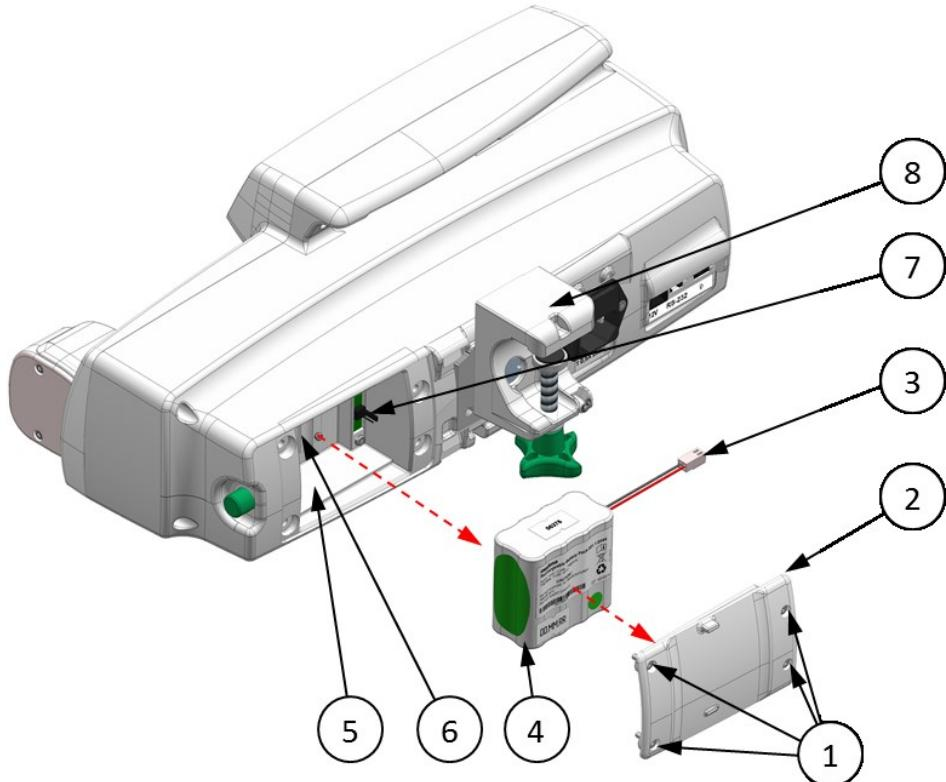

Fig. 35. Battery package removal/installation
1. Turn the **Rotatable pole clamp (8)** by 90° as shown in Fig. 35.
2. Using the **TB-1** screwdriver unscrew four **M3x8 screws (1)** which fixing the **Battery cover (2)**. Pull out the **Battery cover (2)** as shown in Fig. 35.
3. Disconnect the **Battery package connector (3)** from the **Battery package socket (7)**, pull out the **Battery package (4)** from the **Battery chamber (5)** as shown in Fig. 35.
4. Remove the heat transfer compound **TB-8** from the **Battery bed (6)** (see Fig. 35).
1. Apply the heat transfer compound **TB-8** on **Battery bed (6)** inside the **Battery chamber (5)** (see Fig. 35) with amount shown in Fig. 36.
2. Connect the **Battery pack connector (3)** to the **Battery pack socket (7)** and then place the **Battery package (4)** in the **Battery chamber (5)** as shown in Fig. 35. The part of the **Battery package (4)** with no protective foil must adhere to the **Battery bed (6)**.
3. Attach the **Battery cover (2)** and use the **TB-1** screwdriver to screw in four **M3x8 screws (1)** that fix the **Battery Cover** as shown in Fig. 35.